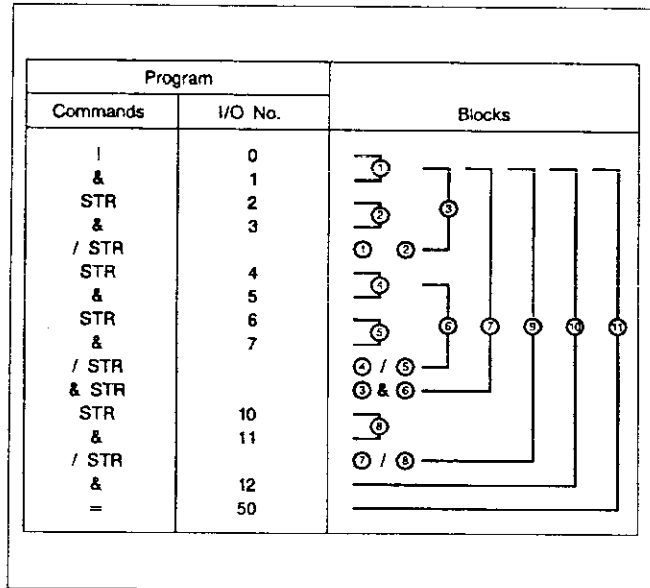

Figure 14.10
- Combine the individual blocks in the order stated in figure 14.10, 3rd column until you have made your way towards the right-hand side and reached the output assignment.